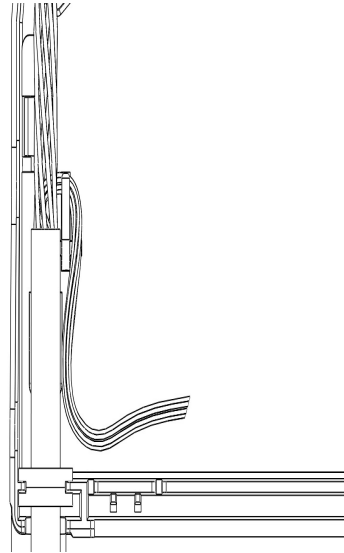

Fig. 12
3.1.8. Move aramid yarn towards the cable grommet (Fig. 12);